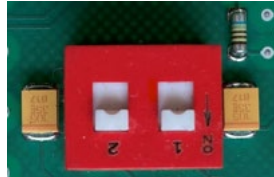

Figure 1
3.1 Both switches on the band-pass filter board shall be set to on. See Figure 1.